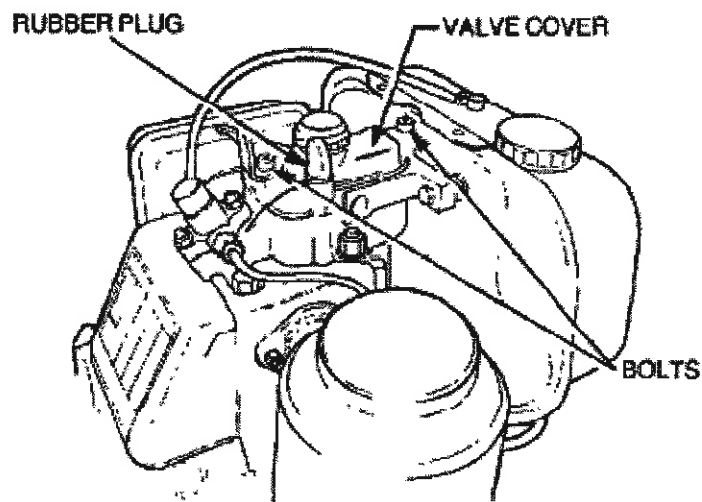

Figure 4 Valve Cover - Removal
- d. Remove the two Allen head bolts securing the cover to the cylinder head (Figure 4).